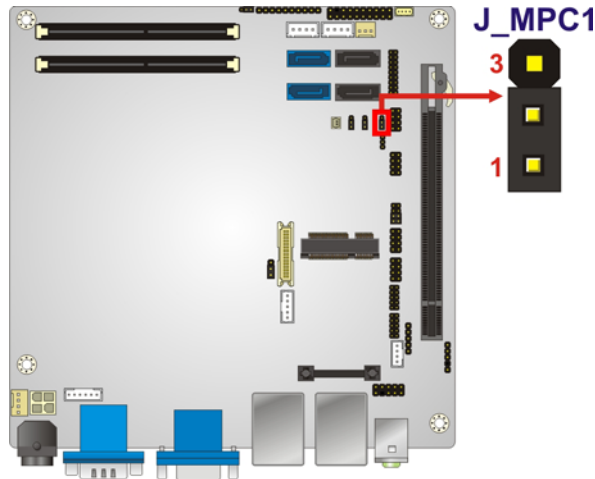

Figure 4-12: MPC Switch Control Jumper Location
- Jumper Location:** See **Figure 4-12**